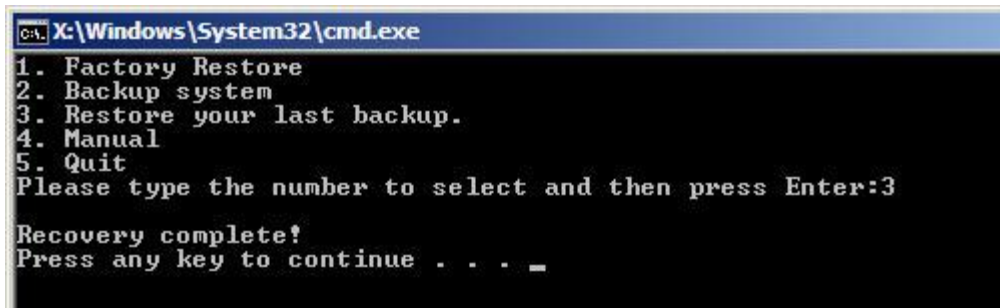

Figure B-39: Restore System Backup Complete Window
**Step 3:** The screen shown in **Figure B-39** appears when backup recovery is complete. Press any key to reboot the system.